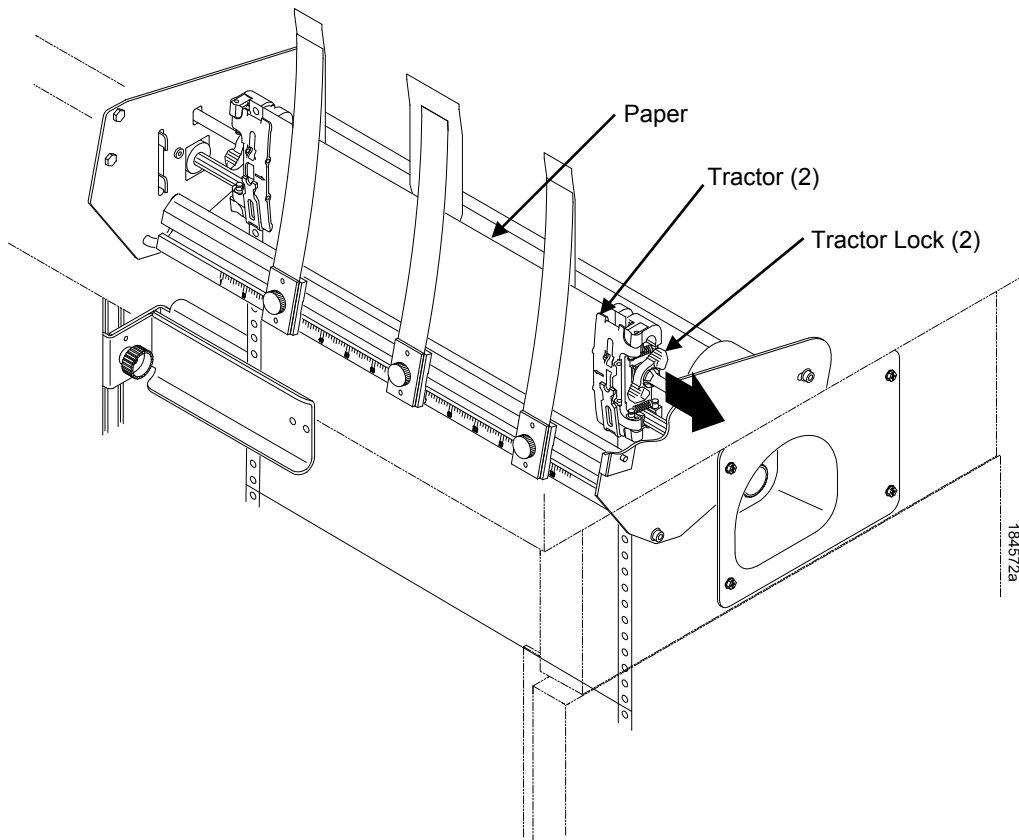

Figure 48 Adjusting the Horizontal Paper Tension
5. Adjust the paper web tightness by sliding the right tractor to remove slack or to adjust for various paper widths. (See Figure 48.)